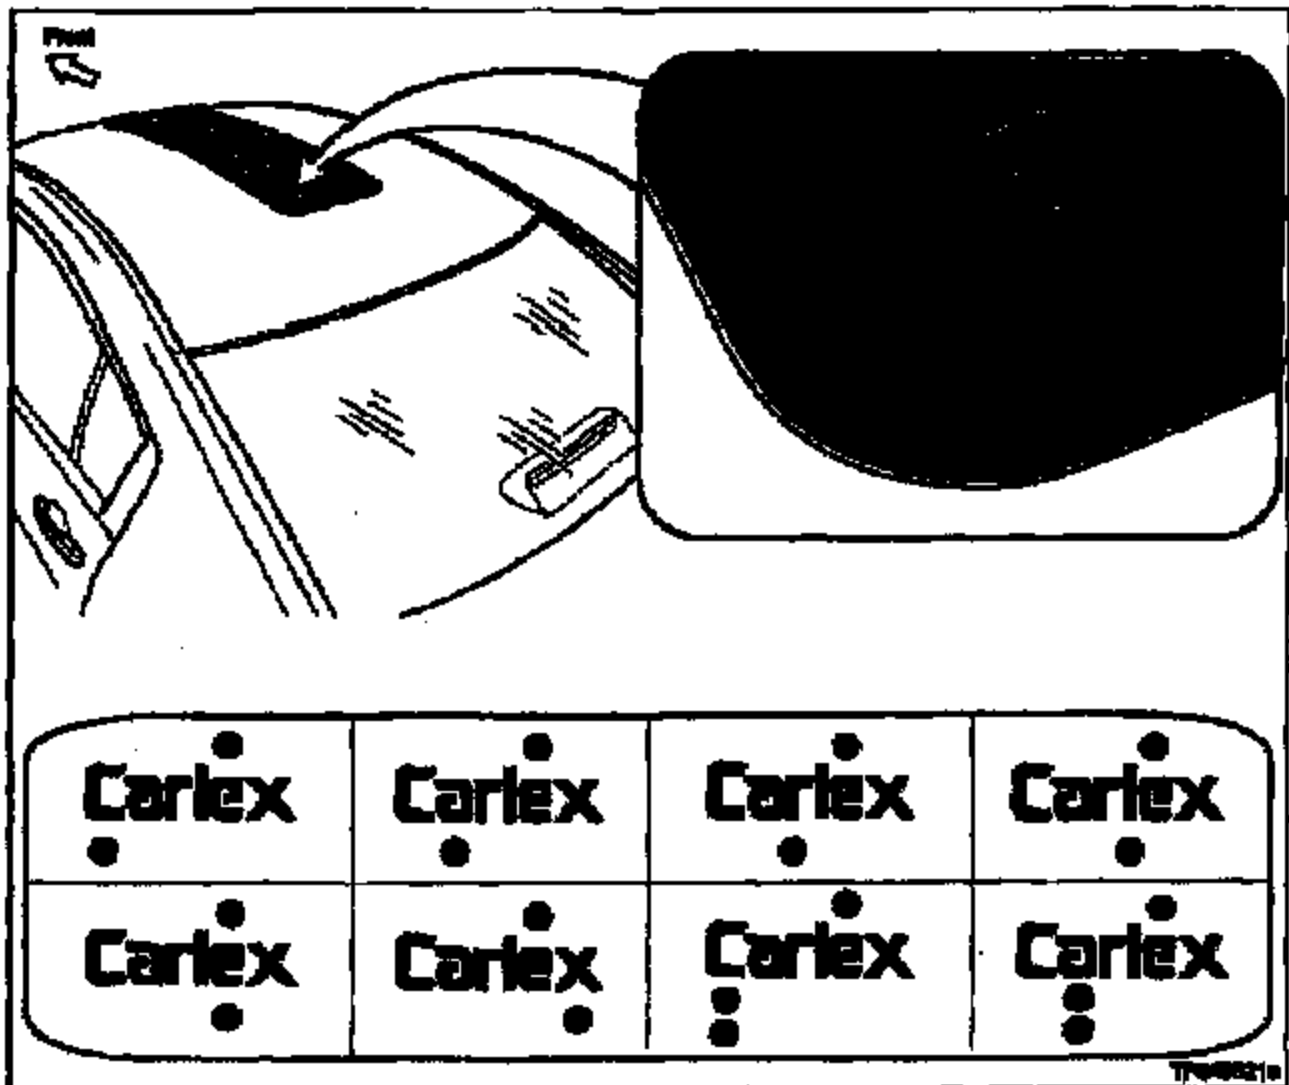

Figure 1
- b. The dots around the "CARLEX" name (located at the driver's side rear corner of the Glass) look like any one of the examples shown in Figure 1.